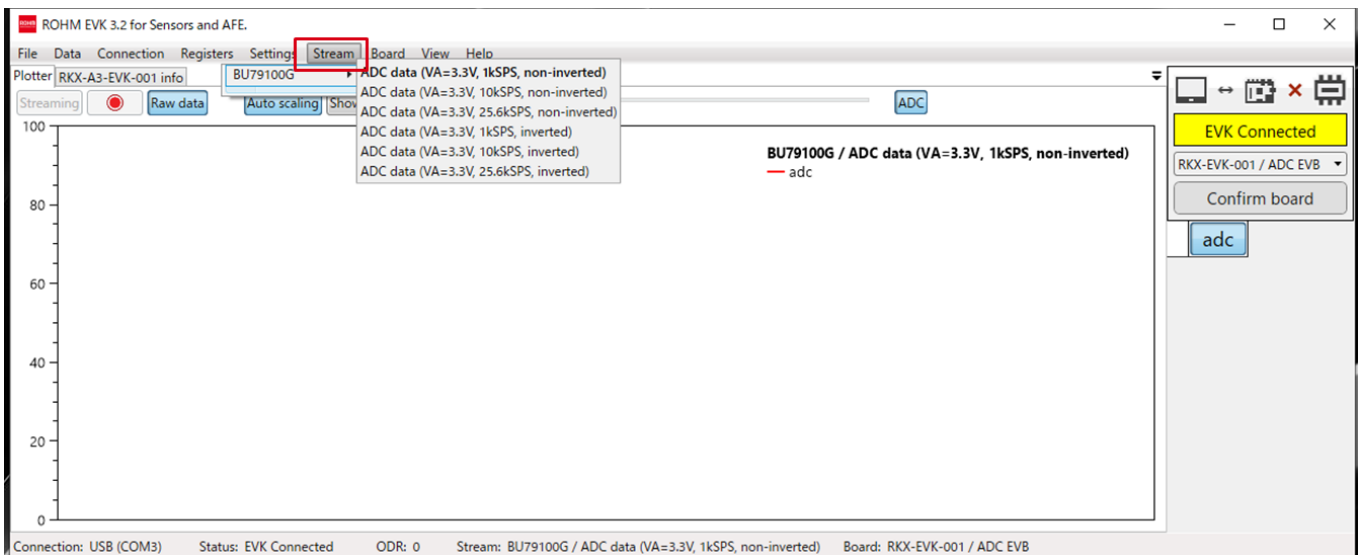

Figure 9. ROHM EVK GUI: "Stream" menu
4. Select the settings you want to use from "Stream" menu. (Figure 9)